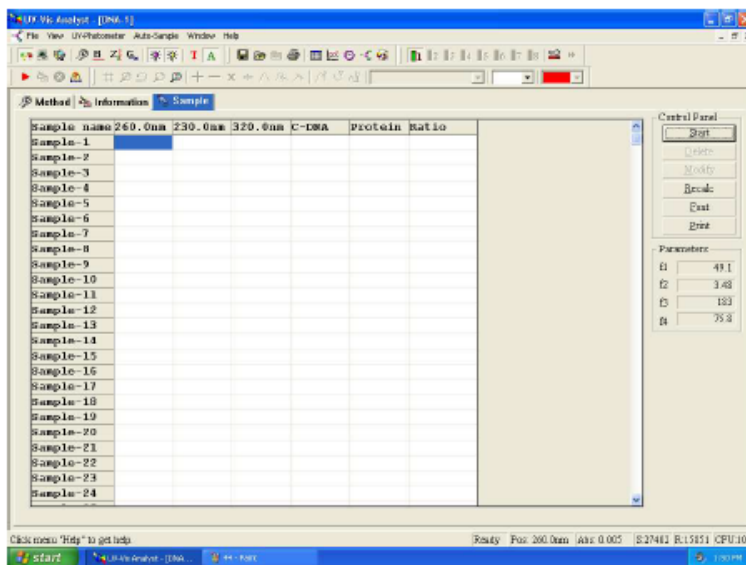

Fig. 4.45
4. Click the sample tab. It will display the following (Fig 4-45). The control menu contains six buttons: start, delete, modify, recalculate, font and print.